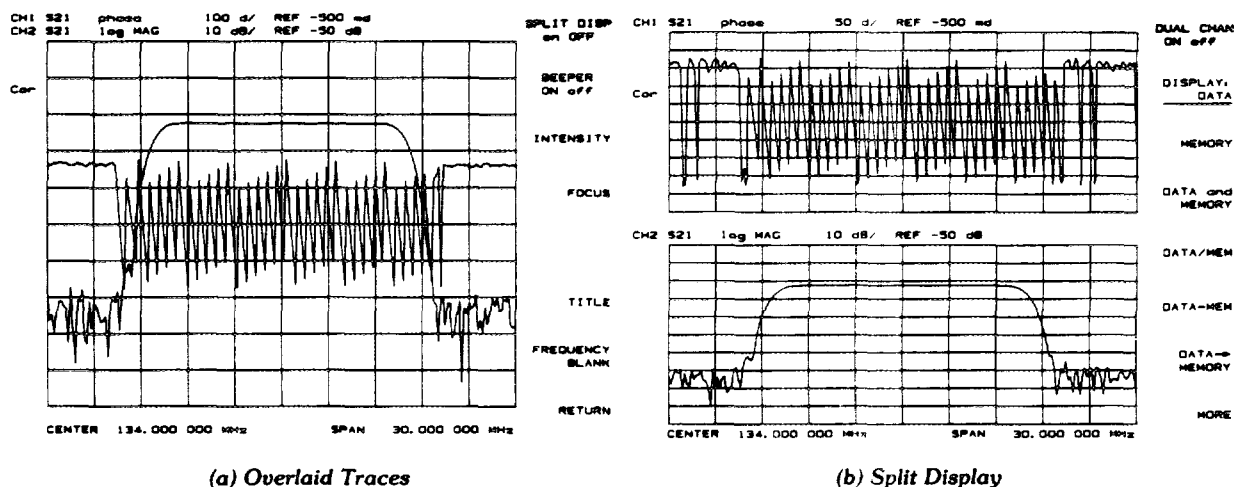

Figure 4-25. Dual Channel Displays
**[SPLIT DISP on/OFF]** (SPLDON, SPLDOFF) toggles between a full-screen single graticule display of one or both channels, and a split display with two half-screen graticules one above the other. Both displays are illustrated in Figure 4-25. The split display can be used in conjunction with **[DUAL CHAN ON]** in the display menu to show the measured data of each channel simultaneously on separate graticules. In addition, the stimulus functions of the two channels can be controlled independently using **[COUPLED CH ON]** in the stimulus menu. The markers can also be controlled independently for each channel using **[MARKERS: UNCOUPLED]** in the marker mode menu.